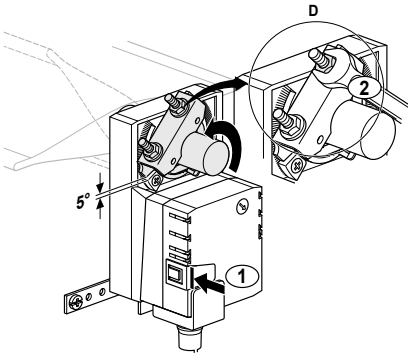

FIGURE 22
Confirm the damper is now fully closed, but the actuator is 5° from fully closed, (1/16" to 1/8" between stop and clamp), See **FIGURE 22**. This is called “pre-loading” the actuator. When the actuator is powered and sent to the closed position it will put its full torque on the shaft compressing the edge and blade seals. The actuator is electronically protected from overload and will not be damaged.
- 2) Loosen the nuts on the universal clamp. Press the manual override button and rotate the clamp to about 5° from fully closed, (1/16" to 1/8" between stop and clamp). Tighten the two nuts on the universal clamp with a 10 mm wrench (See **FIGURE 22**).